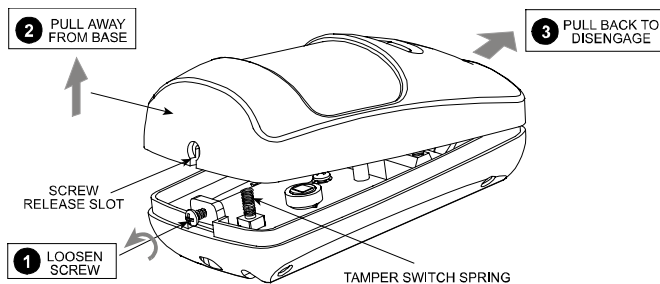

Figure 3. Cover Removal
1st. Remove the front cover as shown in Figure 3.
- 1st. Remove the front cover as shown in Figure 3.